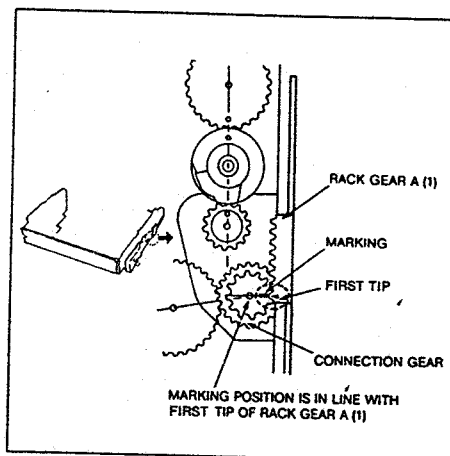

FIG. D22
6. Reinstall the cassette compartment (Without Cassette Holder) to chassis so that the first tip of Rack Gear A (1) comes to Marking slot of connection gear as shown in FIG. D22.